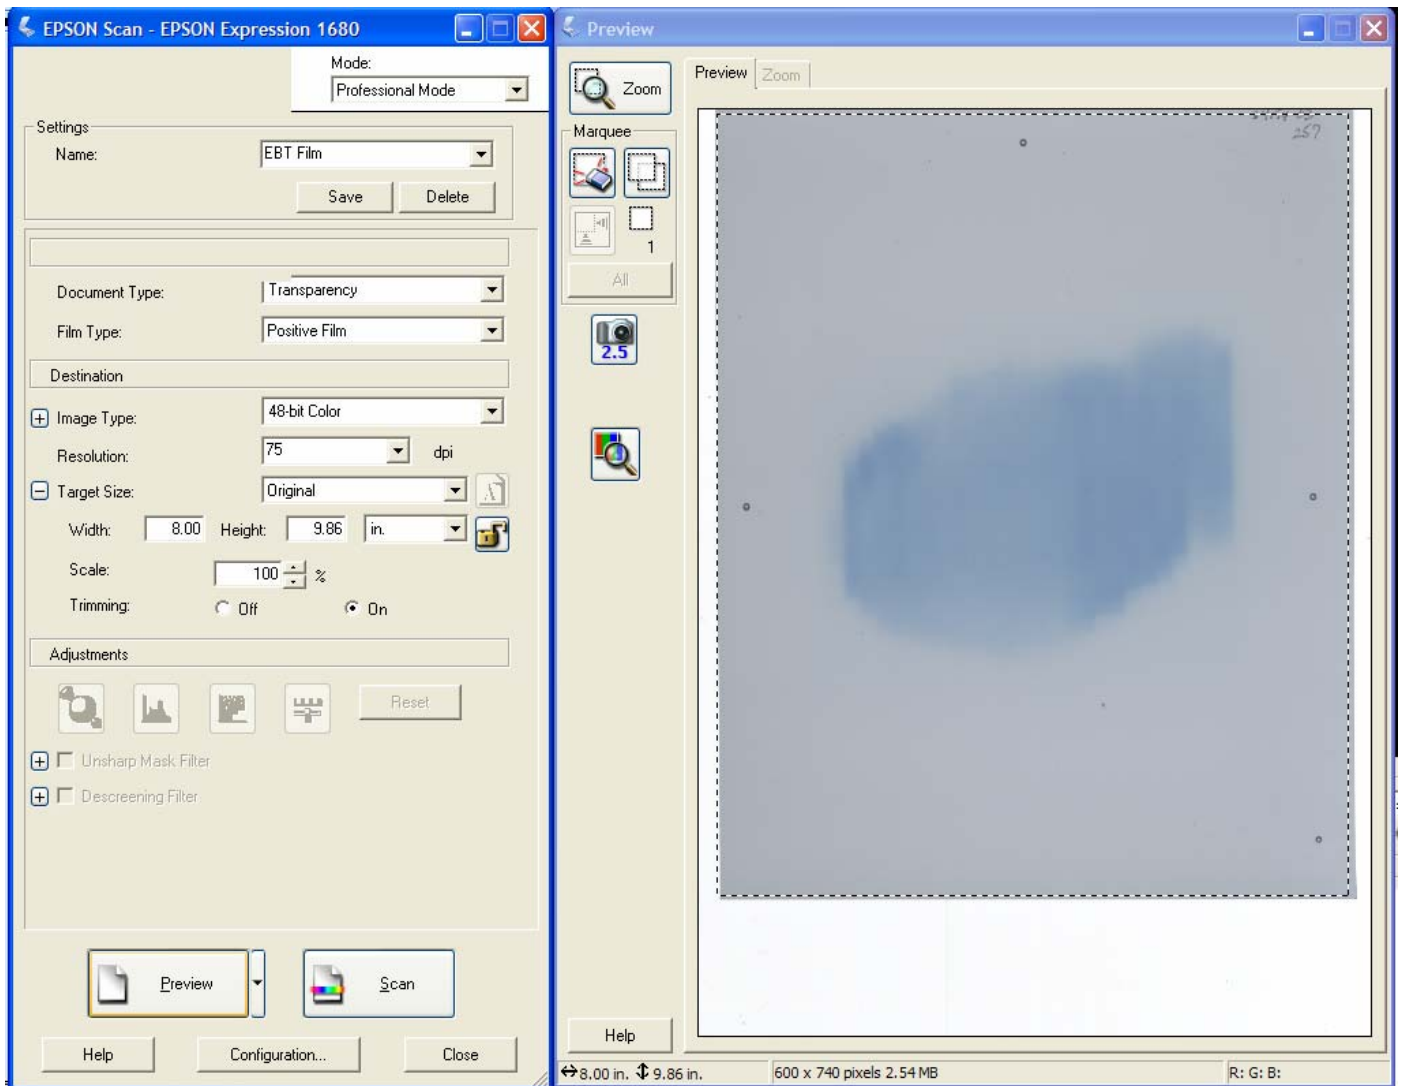

Figure 10
13. Place a film at the top of the scanner and center the film in the scan area. Select “Preview” and obtain a preview scan. The image should appear within the outlined area in the preview window as shown in Figure 10. Once you are satisfied with the positioning you can close the “Preview” window and proceed to scan the set of exposed films as well as the films with the calibrated doses and the unexposed film.